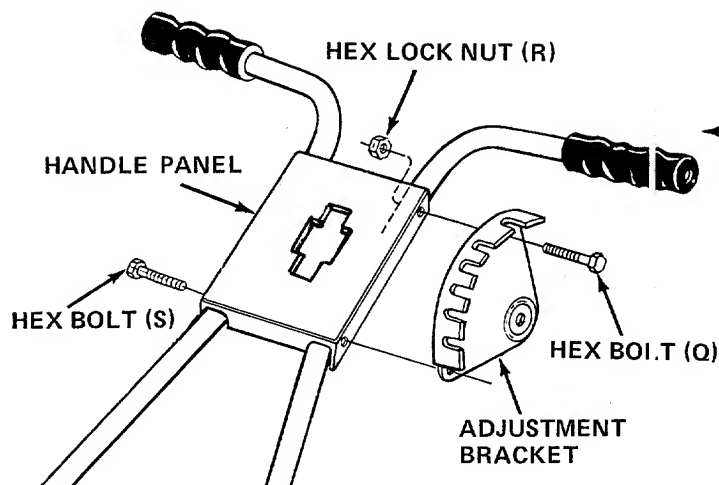

FIGURE 7
8. Place the handle panel over the upper handles and line up the holes. See figure 7.
9. Secure the right hand side of handle panel with two one-inch long hex bolts (S) and hex lock nuts (R). Do not tighten.
10. Secure the adjustment bracket to the left hand side of handle panel with 1-1/4 inch long hex bolts (Q) and hex lock nuts (R). See figure 7.